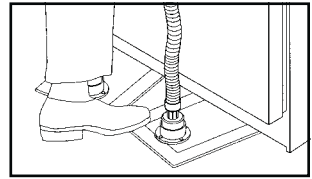

Figure 8
- If the floating appliance is lower in the rear than the front, stepping on the front of the inflated air plates near the hose connections will force more air to the rear. It may also be necessary to step on the plates in order to position the load as closely as possible to the back wall. (See figure 8.)